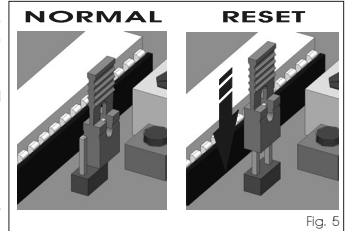

Fig. 5
- 4- Give an **OPEN A** command with any device connected to this input: the display shows value "**P_r**", and the leaves begin to move. The first manoeuvre performed by the leaves must be closing. If this does not happen, stop the gate movement with a reset pulse. To do this, make a bridge between the two "**RESET**" PINS, using the connector (see Fig.5). Cut power and put the connector back in its normal position (Fig. 5). Then change over the wires of the motor/s, which had performed the opening operation. Resume the programming stage from point 1.